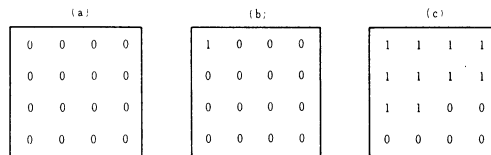

Fig. 1 Addressing method for 16 bits memory in the Marching pattern
- (1) Write "0" for all bits Fig. 1(a)
- (2) Read "0" of 0th address and check that the read data is "0". Hereafter, the meaning of "Read" is "checking and judging the data".
- (3) Write "1" in the 0th address Fig. 1(b)
- (4) Read "0" of 1st address
- (5) Write "1" in 1st address
- (6) Read "0" of nth address
- (7) Write "1" in nth address Fig. 1(c)
- (8) Repeat above procedures (6) and (7) up to the last. Finally, all data will become "1".
- (9) Since all data are "1"s in this condition, replace "0" and "1" after procedure (2) and repeat once more up to procedure (8).